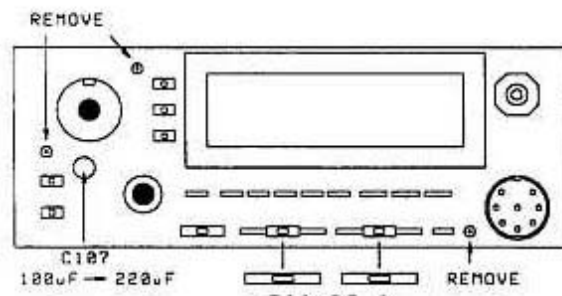

FIGURE 3
7. Remove the three brass colored screws from Control board B/3. Figure 3.
32. Replace C107 with the 220 μ F electrolytic. C107 is located between the Main and Sub rotary endoders. Figure 3.
11. Replace C17. Figure 3.